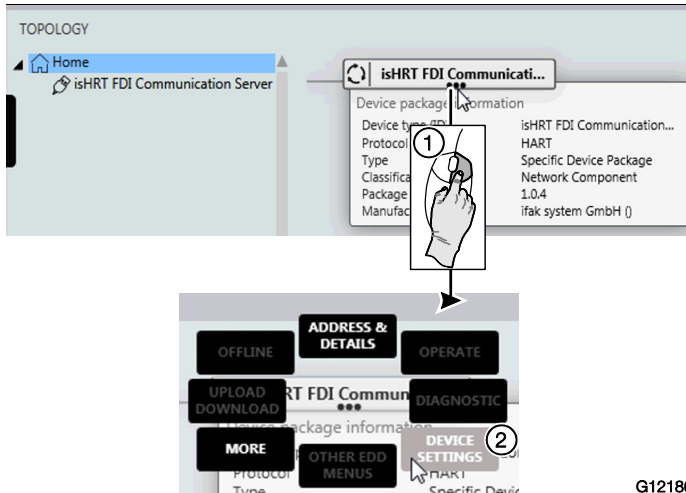

Fig. 55
6. Right click ① as shown in Fig. 55.
7. Select “DEVICE SETTINGS” ② as in Fig. 55.